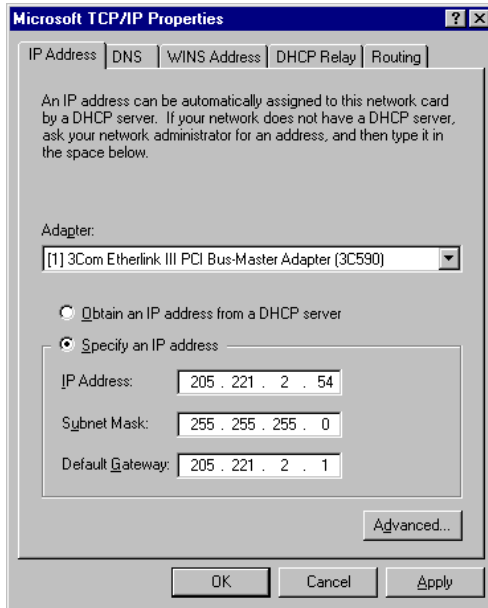

Figure 2. TCP/IP Configuration
2. Click the **Protocols** tab, then double click on **TCP/IP Protocol** from the drop-down list box. The **TCP/IP Protocol** window appears (see Figure 2), where you configure the IP Address, Subnet Mask, and Default Gateway (router).
1. Configure the following client **TCP/IP Properties** (see Figure 2):